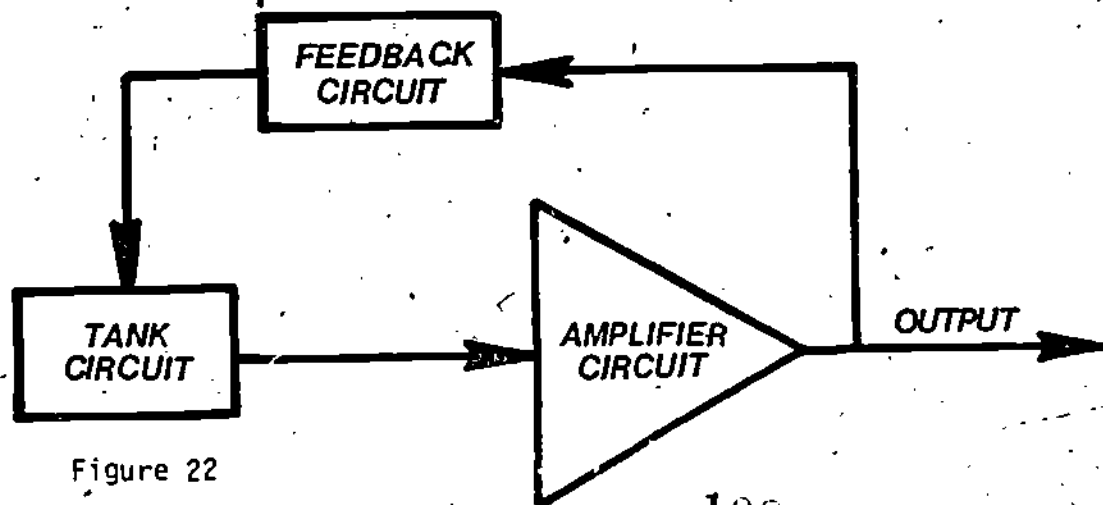

Figure 22
25. RF amplifiers may have some minor problems. One problem that sometimes occurs with RF amplifiers is that they may tend to oscillate. This tendency increases as the amplified frequency increases. You may easily understand this principle if you recall your study of basic oscillators (Module 22). There you learned that an oscillator is nothing more than an amplifier, a tuned tank, and a regenerative feedback circuit connected as in Figure 22.